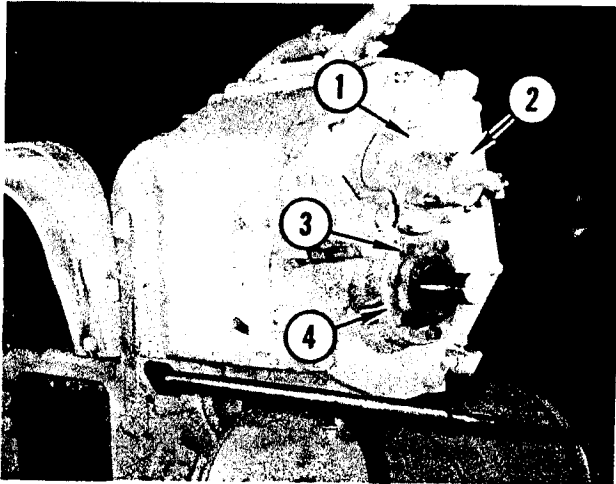

FIGURE 43. OIL CAP & BEARING COVER REMOVAL
Refer to Figure 43. Remove five cap-screws and lockwashers (1). Remove oil cap (2) and gasket. Remove five hexhead cap-screws (3) and one countersunk Allenhead setscrew. Remove oil seal retainer (4). Remove snap ring from upper shaft bearing. Lower shaft bearing will come off with cover.